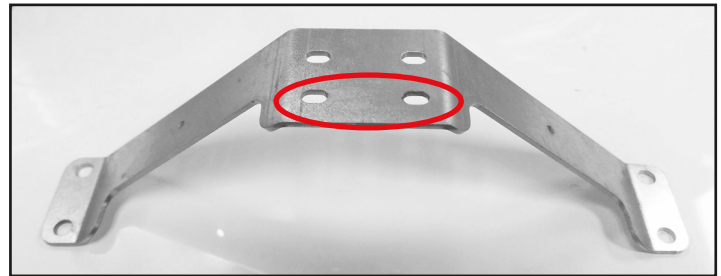

Fig. 1. For similar brackets, see left for instructions. Front mounting holes circled.
The fan mounting bracket dictates motor replacement instructions. See figs. 1 (right) and 3 (next page) to determine which procedure applies.
Brackets Similar to Fig. 1
4. Use the front mounting holes (see fig. 1) to secure the replacement motor to the mounting bracket.